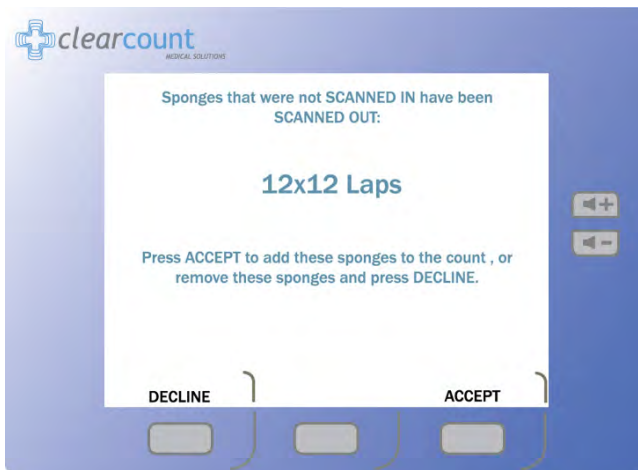

Figure 2-6 Example of Decline or Accept Screen
- Step 3 Sponges may be discarded into the Count Out Bucket at any time during the surgical case. If a sponge(s) that has not been scanned in is detected by the Count Out Bucket, the system will prompt the user on what action to take with the detected sponge(s). There is an option to **Accept** the detected sponge(s) into the case or **Decline** them. See **Figure 2-6**. Accepting infers that a sponge(s)